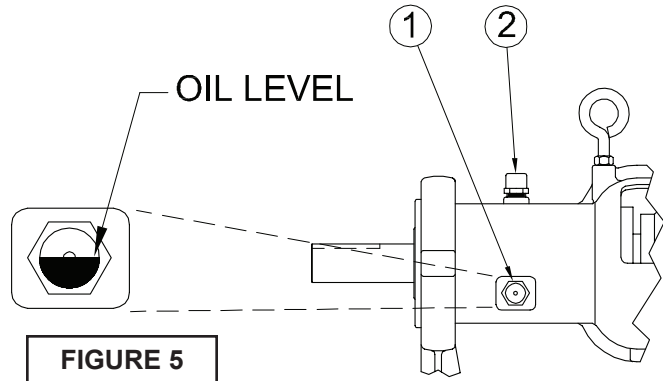

FIGURE 5
Bullseye Glass (See Figure 5)- Observe pump shaft bearing oil level through "Bullseye" glass plug (item 1) located on the right hand side of the bearing pedestal (when looking from the motor side).